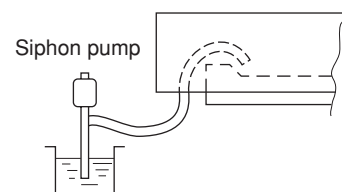

Fig. 3-15
- (3) Pour water into the drain pan using a siphon pump through the air outlet grille. (Fig. 3-15) Check the water flow through the transparent drain pipe and see if there is any leakage.